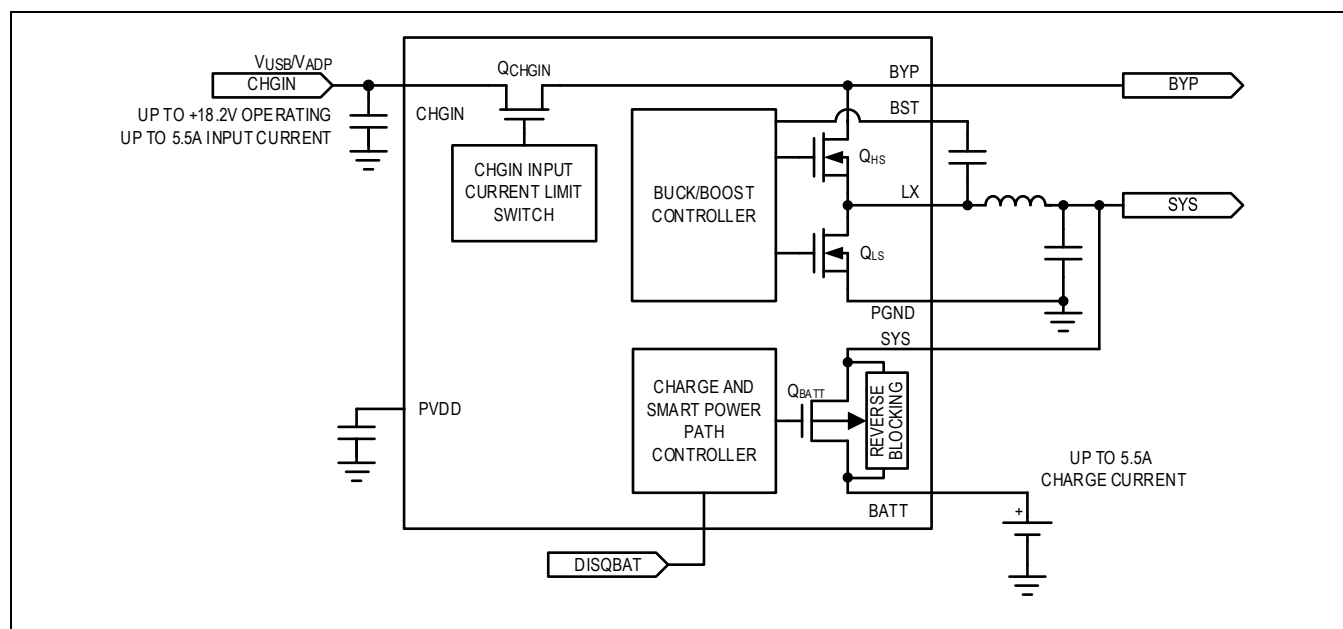

Figure 1. Smart Power Selector Functional Diagram
The Simplified Functional Diagram shows a simplified arrangement for the Smart Power Selector's power steering switches. Figure 1 shows a more detailed arrangement of the Smart Power Selector switches and gives them the following names: QCHGIN, QHS, QLS, and QBATT.
- **CHGIN Input Switch:** The input switch is either completely on or completely off. As shown in Figure 1, there are SPS control loops that monitor the current through the input switches as well as the input voltage.